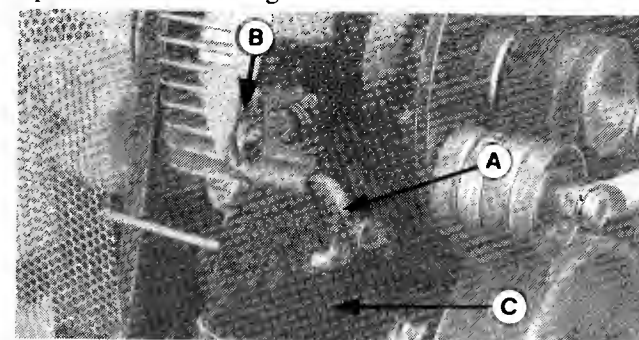
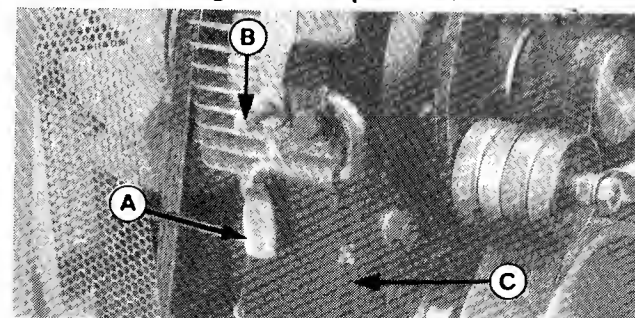

Figure 2. Tow Valve Engaged
Figure 3. Tow Valve Disengaged
To push the rider by hand, the tow valve must be engaged, so that plunger on front of transmission (figure 2) is depressed. To drive the rider, the tow valve must be disengaged (figure 3).
1. To disengage, grasp lever (A, figure 2), pull toward left so lower section clears pump bracket (C). Flip down, then push toward right, so it is secured into position shown in figure 3.
2. To engage, grasp the lever (A, figure 3), pull toward left to clear pump bracket (C), and then flip up so it depresses plunger. Push toward right so it locks into position shown in figure 2.